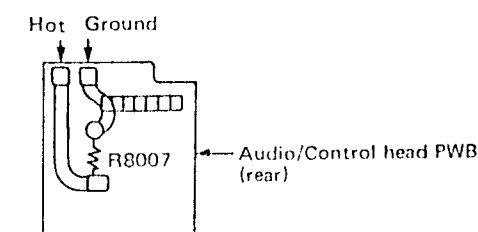

Figure 52.
- 1) Set deck-(1) to the recording mode.
- 2) Connect the vacuum tube voltmeter to the both ends of R8007 (10 ohm) of the audio head as shown in figure 52.
- 4) Adjust R635 (bias (1) control in record mode) as the vacuum tube voltmeter indicates 3.5 mVrms.
- 1) Set deck-(2) to the recording mode.
- 2) Connect the vacuum tube voltmeter to the both ends of R8007 (10 ohm) of the audio head for deck-(2) as shown in figure 52.